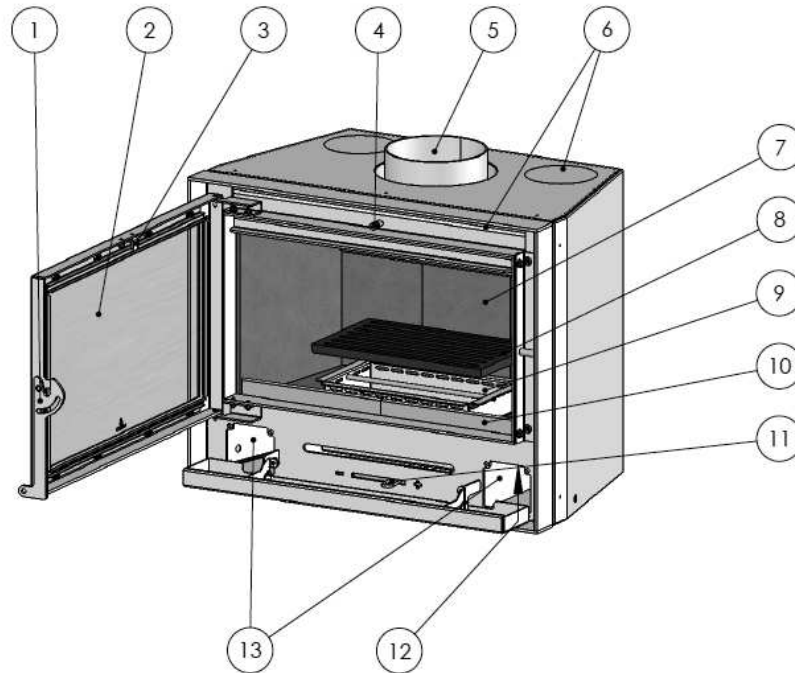

Figure 2: Operation
6.2 GETTING THE FIRE GOING (Figure 2)